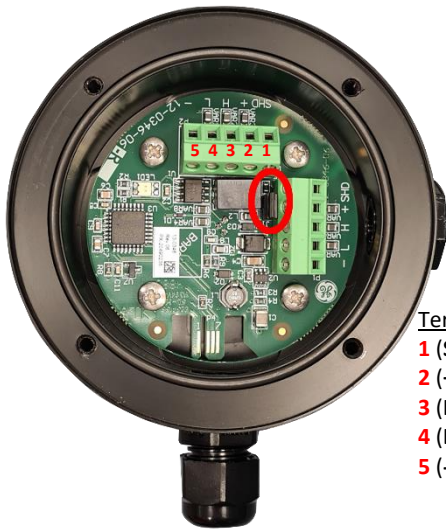
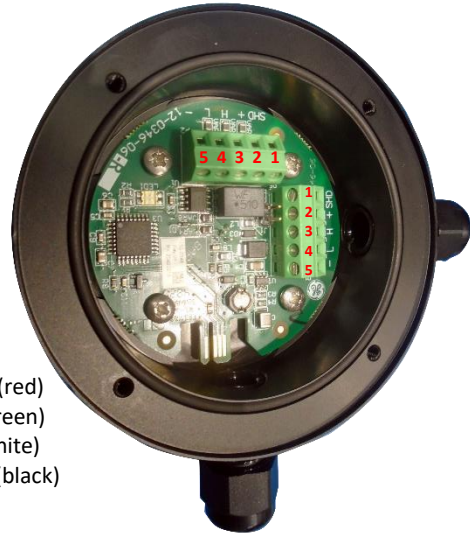
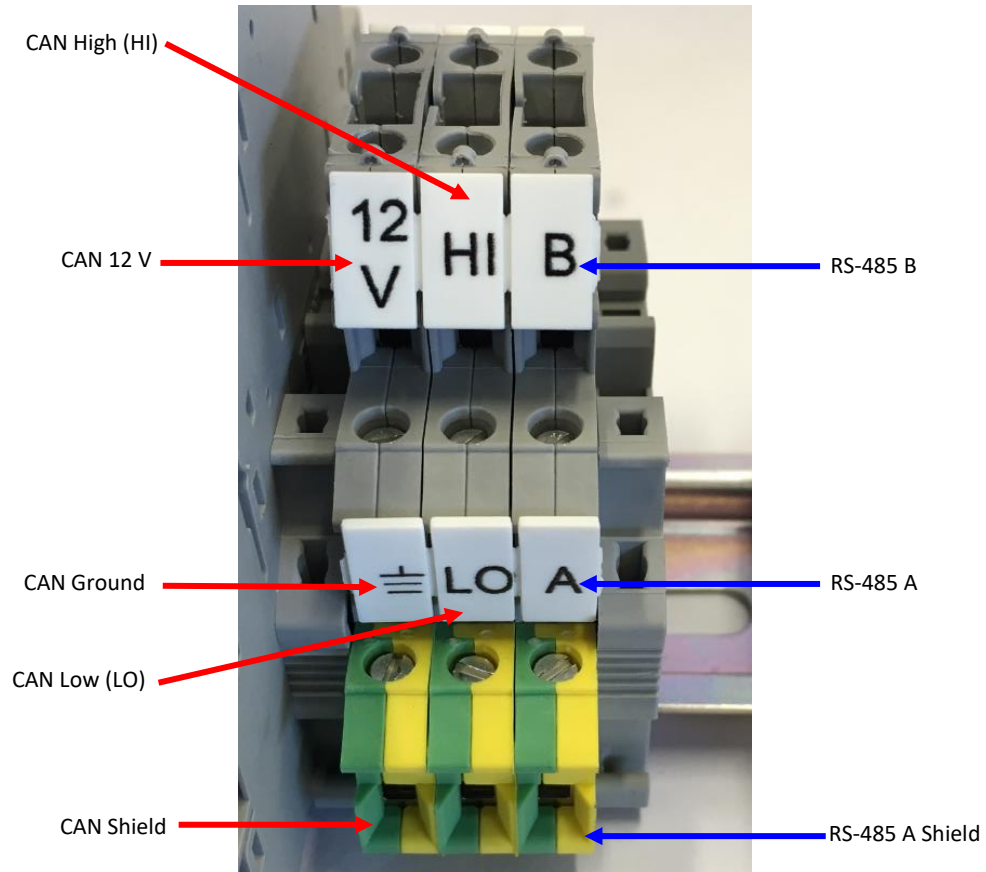

Figure 5-21: MMTS #1 with jumper
Figure 5-22: MMTS #2/3 without jumper
Figure 5-30: CANbus Connection on the DIN rail
Route the cable from the MMTS(s) to the product cabinet, cutting as required. Figure 5-21 to Figure 5-22 illustrate the terminal connections inside the MMTS. Figure 5-30 shows the CANbus connection inside the cabinet.
- The shield is connected to the ground of the CANbus terminal block (see Figure 5-30).
The MMTS is connected to the CANbus connectors on the DIN rail. See Figure 5-4 for an overview to the key parts of the product and Figure 5-30 below for a more detailed look at the connection points.
The standard RS-485 connection is routed to the DIN rail from the main PCB as shown in Figure 5-30.